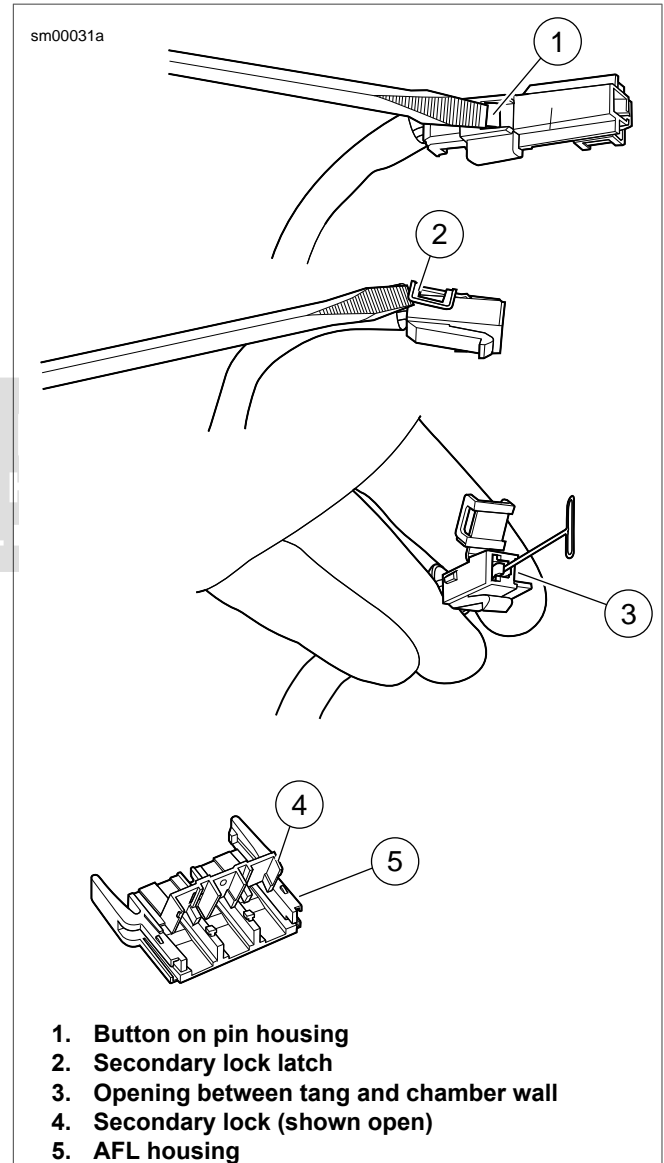

Figure A-18. Delphi 480 Metri-Pack Unsealed Connector: Remove Socket Terminal
See Figure A-18. An AFL housing (5) is used on many ignition/light switches. The secondary lock (4) must be opened before removing the terminal from the housing.
See Figure A-18. Using small flat blade screwdriver, press button (1) on pin housing (red wire) side of the connector and pull apart the pin and socket housings.
- See Figure A-18. Bend back the latch (2) slightly and free one side of secondary lock, then repeat to release the opposite side. Rotate the secondary lock outward on hinge to access terminal in chamber of connector housing.
- On the mating end of the connector, note the tang in the square shaped opening centered next to the terminal. Gently insert the point of a stick pin or large safety pin into the opening (3) between the tang and the chamber wall until it stops.